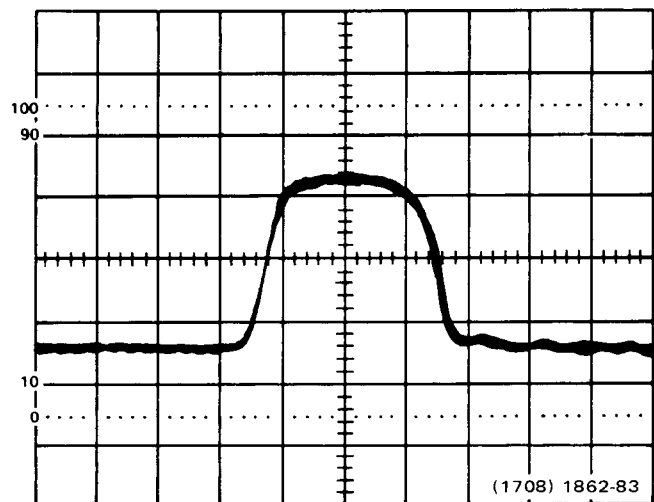

Fig. 6-5. Typical display on test oscilloscope when High-Speed Timing is properly adjusted. (475 set at 2 nanoseconds/division).
f. CHECK—Test oscilloscope display for a symmetrical, flat-top current waveform similar to that in Figure 6-5.